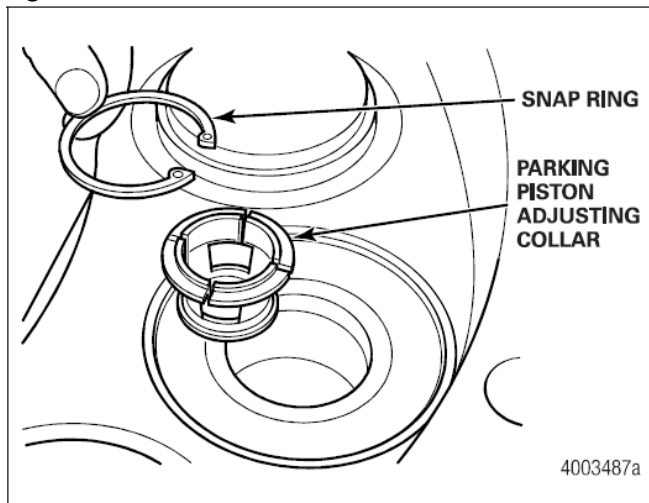

Figure 3.8
10. Use suitable snap ring pliers to remove the parking piston adjusting collar retaining snap ring from inside the groove of the parking piston. Figure 3.8